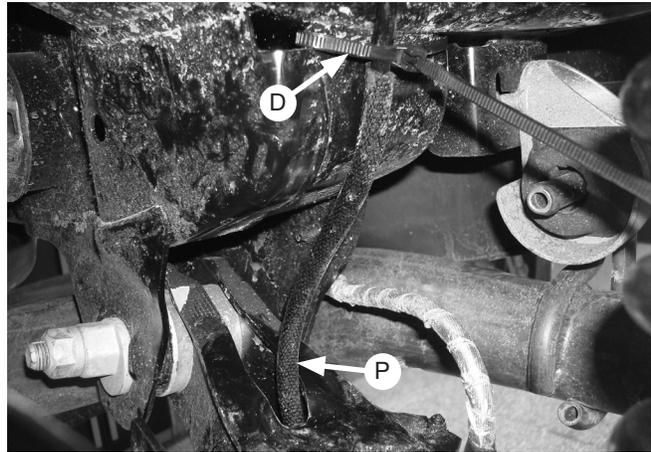

Fig. 20
19. Insert the air line through the air line heat shields (P) on both sides and position them at the lower spring link pivot point as shown (fig. 20). Using the zip ties (D) secure the air line to the upper crossmember.